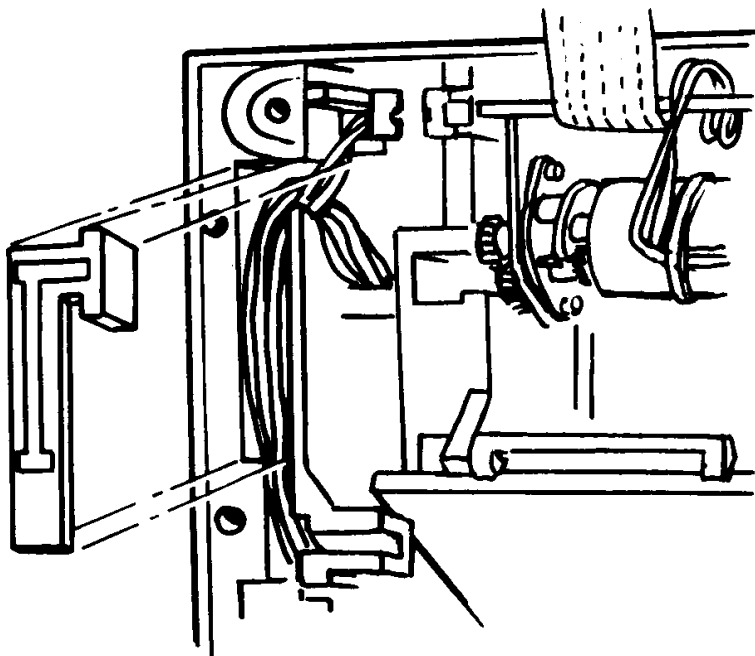

Figure 4-27 Lifting Out Wire Retainer
- 18.1 Lift out Wire Retainer. (Fig. 4-27)